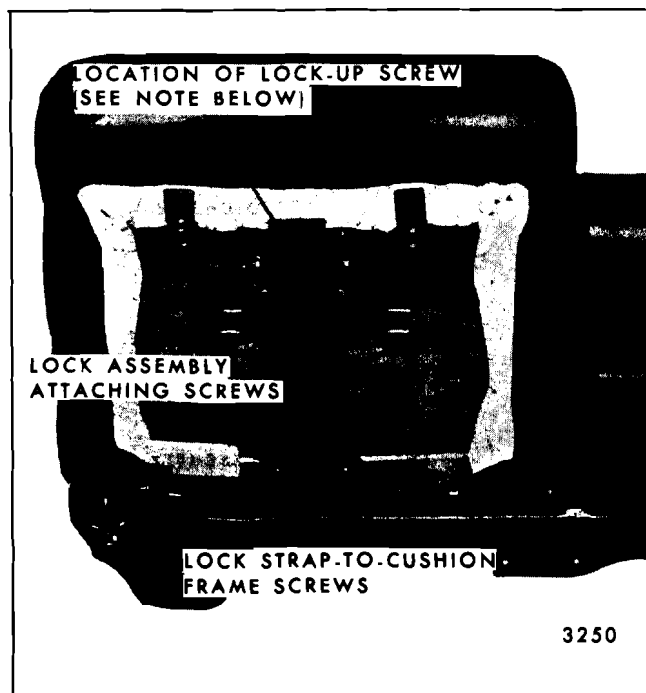

Fig. 15-53—Strato Seat Back Lock Assembly
same lock assembly, install lock-up screw (8-32 x 1/2" screw) at location shown in Figure 15-53.
- Remove lock strap-to-cushion frame attaching screws (Fig. 15-53).
- Remove lock assembly attaching screws (Fig. 15-53) and remove lock assembly from seat back.
IMPORTANT: After all lock assembly attaching screws, including lock strap-to-cushion frame screws, have been tightened, remove lock-up screw at location shown in Figure 15-53.